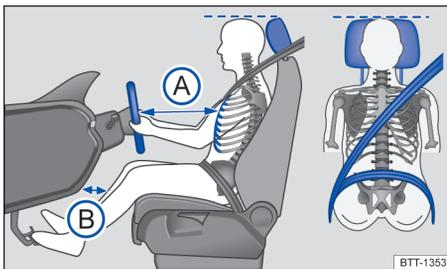

Fig. 21 Proper safety belt positioning and head restraint adjustment. The driver should never sit closer than 10 inches (25 cm) from the steering wheel.
- Adjust head restraints so that the upper edge of the head restraint is at least at eye level or higher. Position the back of your head as close as possible to the head restraint → fig. 21 (dotted line).
- Adjust the steering wheel so that there are at least 10 inches (25 cm) between the steering wheel and your breast bone → fig. 21 \(A\), → page 103, Steering wheel. When adjusting the proper distance to the steering wheel, grasp the top of the steering wheel with your elbows slightly bent.
keeping your knee(s) slightly bent. The distance to the instrument panel in the knee area must be at least 4 inches (10 cm) → fig. 21 .